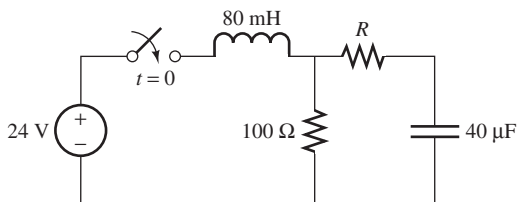

FIGURE P5.46 Circuit for Problem 5.46.
- 5.46 (H)* The switch in Figure P5.46 closes at $t = 0$. Determine whether $v_C(t)$ is underdamped, critically damped, or overdamped if R is $80 \, \Omega$.